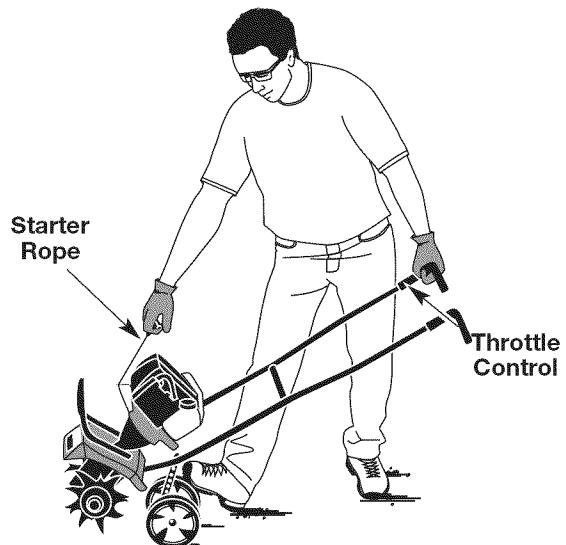

Fig. 12
WARNING: Avoid accidental starting. Make sure you are in the starting position when pulling the starter rope (Fig. 12). To avoid serious injury, the operator and unit must be in a stable position while starting.
6. Hold the throttle and handlebar with one hand and grab the starter rope with your other hand. Use your foot to hold down the mini tiller (Fig. 12).